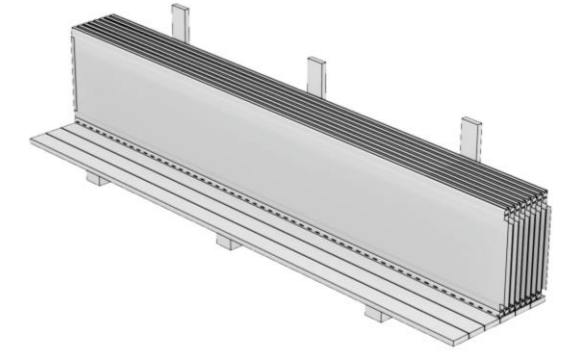
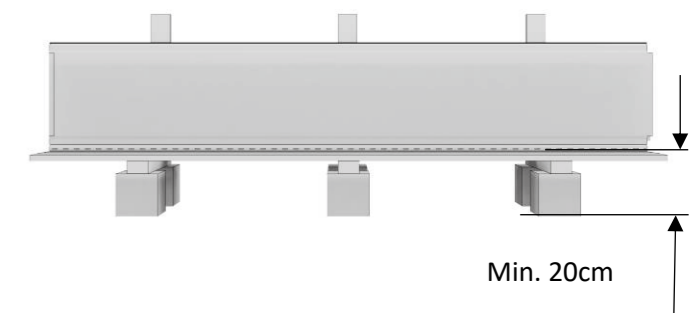

Fig. 4
Fig. 5
- on a flat platform (Fig. 4) placed on sleepers with a minimum height of 20 cm (Fig. 5),